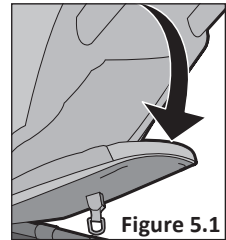

Figure 5.1
- 1 Recline seat back to lowest position. **Figure 5.1**